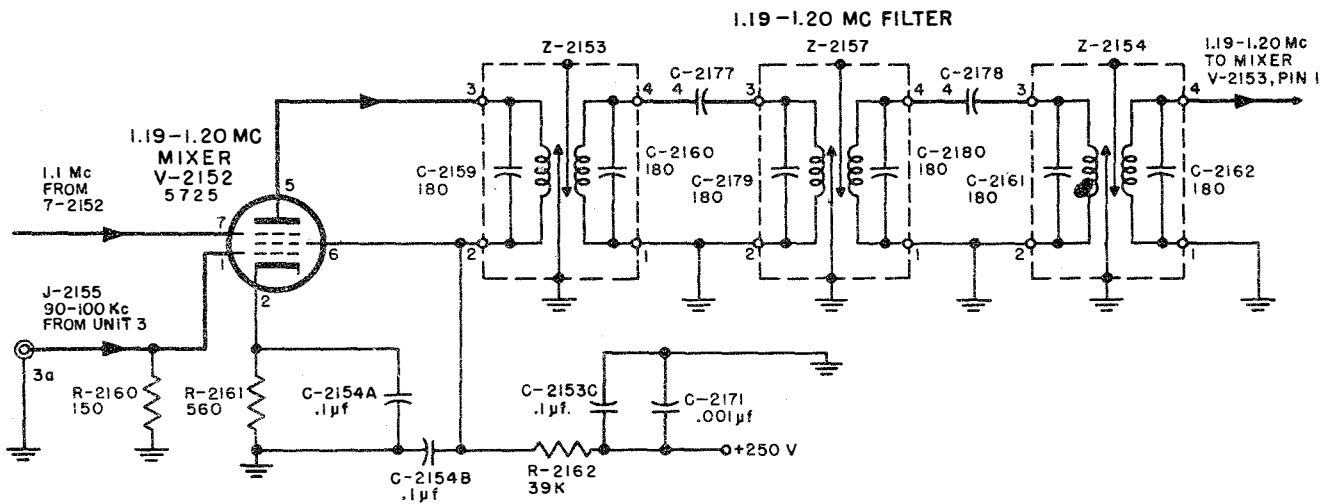

Figure 2-13. RFO Unit 5, 1.19- to 1.2-Mc Mixer V-2152, Simplified Schematic
(2) 1.19- TO 1.2-MC MIXER V-2152.—A 90- to 100-kc signal (3a) is applied to the control grid of the second mixer, V-2152 (figure 2-13). The mixer output is filtered by the sextuple-tuned filter combination, Z-2153, Z-2157, and Z-2154, whose output (1.19 to 1.2 mc) is applied to the control grid of the third mixer, V-2153.